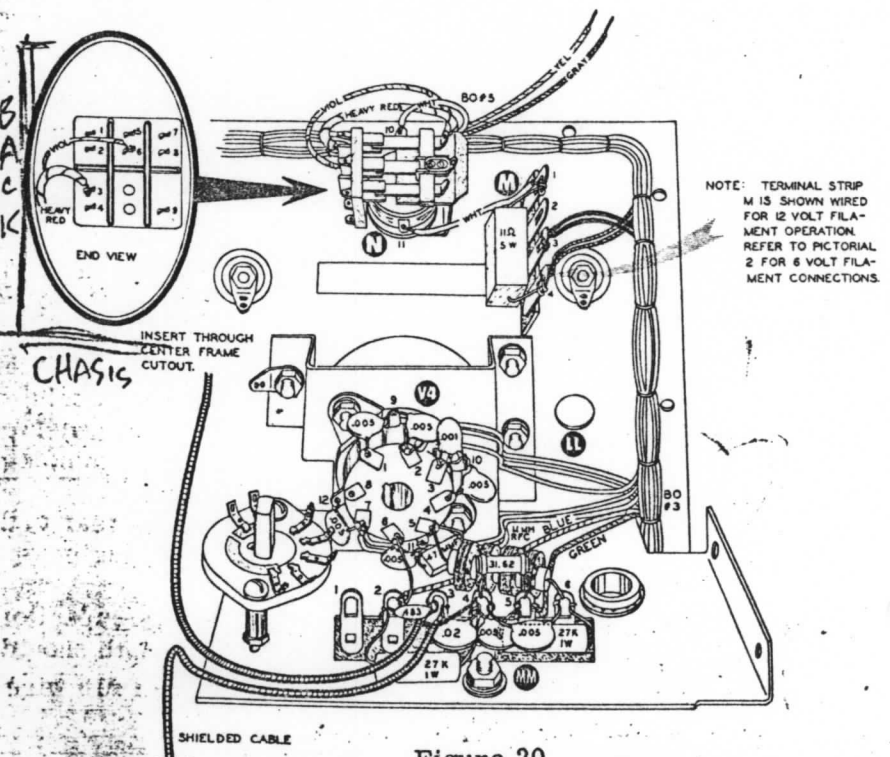

Figure 20
The following .005 mfd disc ceramic capacitor leads must be kept extremely short and must mount close to the socket V4, as shown in Figure 20. Connect these capacitors around the base of V4 as follows:
- (✓) Connect a 47 mmf silver mica capacitor (yellow-violet-black) from pin 5 of tube V4 (NS) to ground lug 11 of tube V4 (S-2).
- (✓) Refer to Figure 20 and, using 6-32 hardware, mount a 6-lug terminal strip (#4 ground) on the flanged side of the rear shield plate at the hole location near the top edge. Position as shown.
- (✓) Connect a 1.1 mh RF choke (#45-4) between pin 5 of tube V4 (S-4) and MM6 (NS). Position exactly as shown so as to clear a gear which will be mounted later.